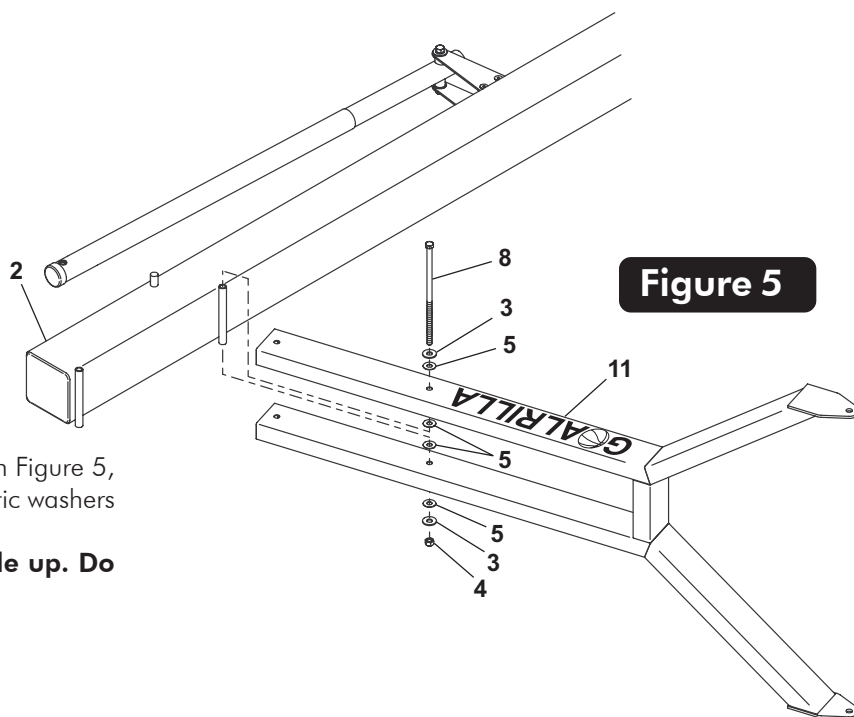

Figure 5
5. Attach lower arm (#11) to Pole (#2), as shown in Figure 5, using a bolt (#8), two flatwashers (#3), four plastic washers (#5) and hex nut (#4).